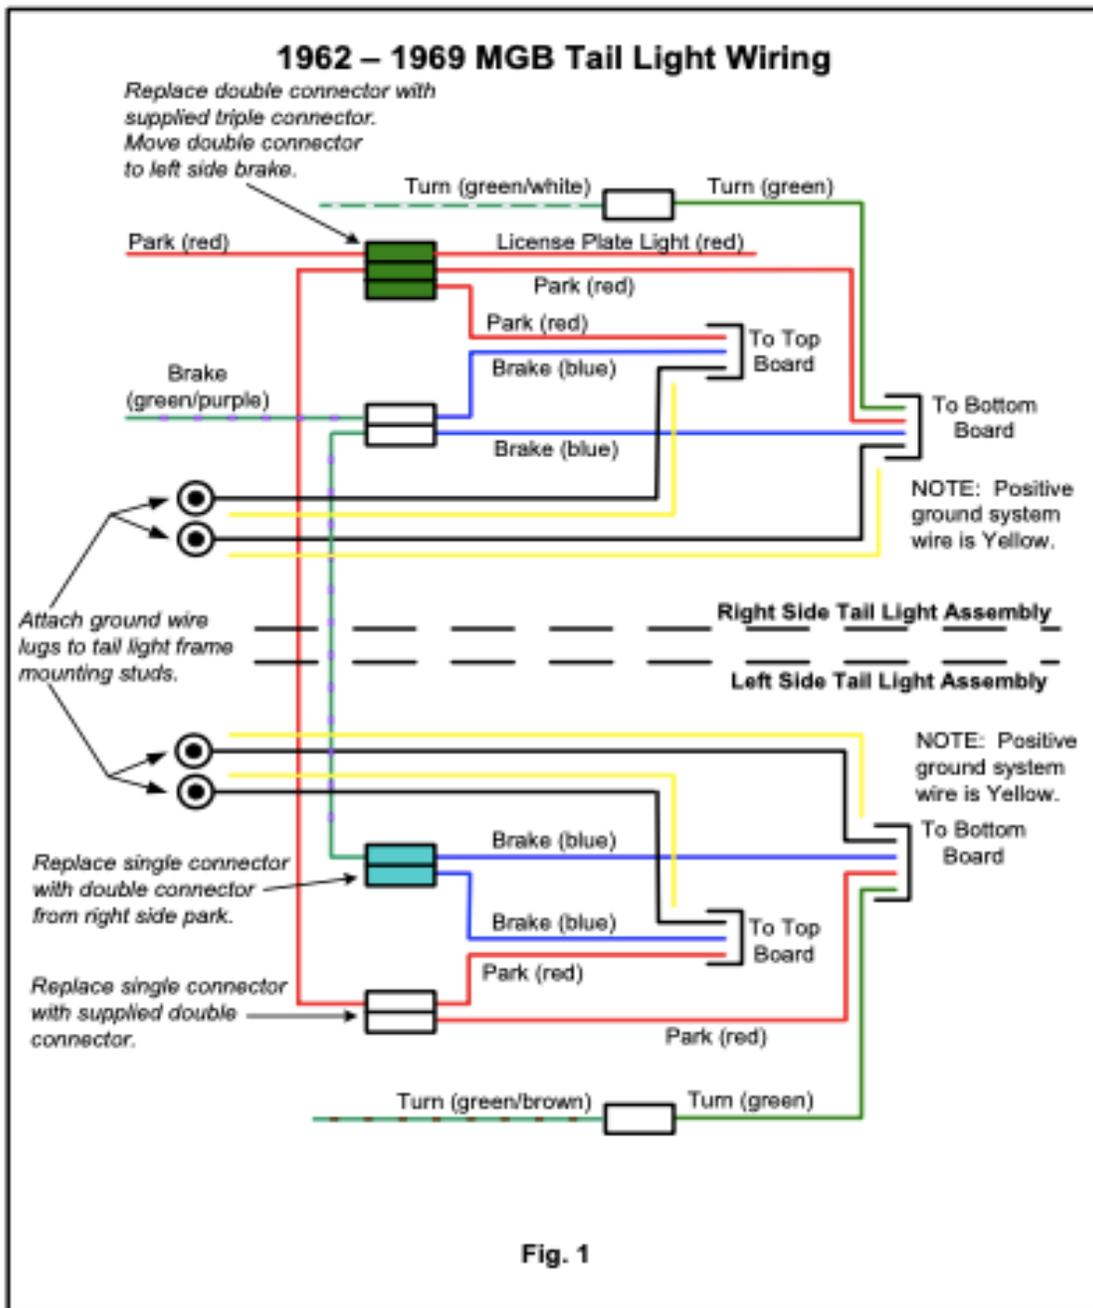

Fig. 1
5. The new LED tail light grounds are wired directly to the tail light frame mounting lugs. This will also be done on the left side tail light installation. Refer to the installation wiring diagram (Fig.1).
11. When the tail light lenses are assembled then connect the LED wiring to the car's wire harness as defined in the electrical diagram below (Fig 1).